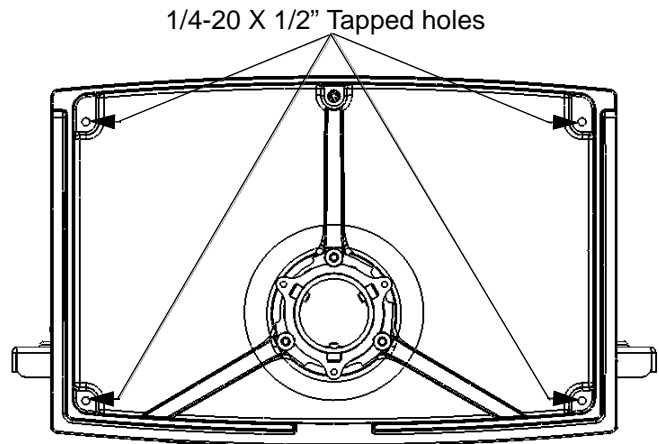

Figure 7. Anchoring Hole Locations
2. Using the template provided, drill anchoring holes for the four 1/4-20 X 1/2" tapped holes (see Figure 7).